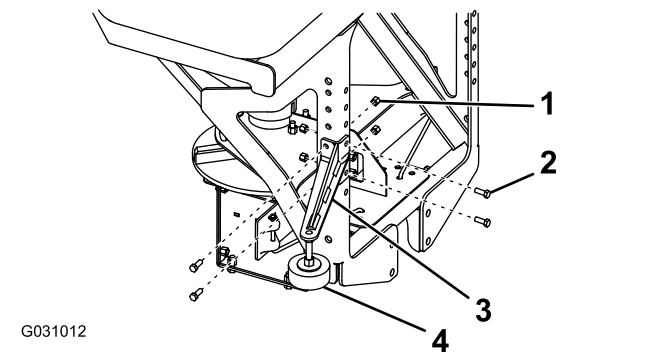

Figure 8
4. Attach the stabilizer arms to the spreader frame using 8 bolts (3/8 inch) and 8 locknuts (3/8 inch), and torque the bolts to 27 Nm (19.7 ft-lb) as shown in Figure 8.
- Rotate the pads on the stabilizer arms until they are tight against your truck bumper and tighten the jam nut to secure them (Figure 8).
8. Attach the stabilizer arms to the spreader frame using 8 bolts (3/8 inch) and 8 locknuts (3/8 inch) and torque the bolts to 27 Nm (19.7 ft-lb) as shown in Figure 8.
9. Rotate the pads on the stabilizer arms until they are tight against your truck bumper and tighten the jam nut to secure them (Figure 8).